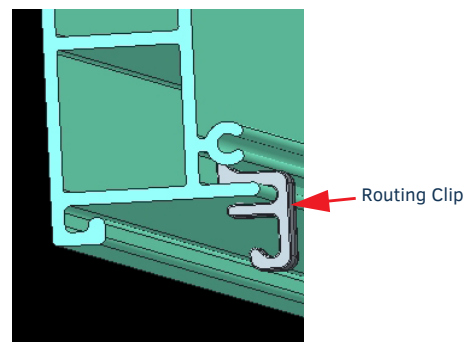

FIG. 6 BOTTOM VIEW WITH CABLE ROUTING CLIP INSTALLED
- Secure the cables in at least one additional location after they have been secured to the system to prevent undue stress if the cables are inadvertently kicked, snagged or pulled. Routing clips are provided that slide into the bottom channel of the base assembly and leave a gap to hold the cable (FIG. 6). These clips come in two different sizes, the larger gap is for the thicker RGB+A RCM cable.